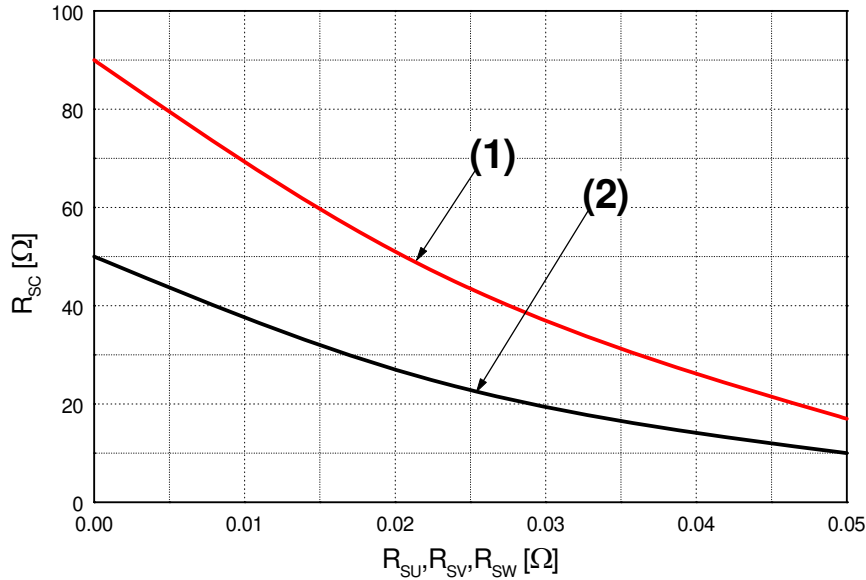

Figure 6. R_{sc} Variation by Change of Shunt Resistors (R_{SU} , R_{SV} , R_{SW}) for Short-Circuit Protection
- Short-circuit protection is functioning only at the low-sides. It would be recommended that the value of the external sensing resistor (R_{SC}) should be selected around 50 Ω in order to make the SC trip-level of about 45A. at the shunt resistors (R_{SU}, R_{SV}, R_{SW}) of 0 Ω . For the detailed information about the relationship between the external sensing resistor (R_{SC}) and the shunt resistors (R_{SU}, R_{SV}, R_{SW}), please see Figure 6.